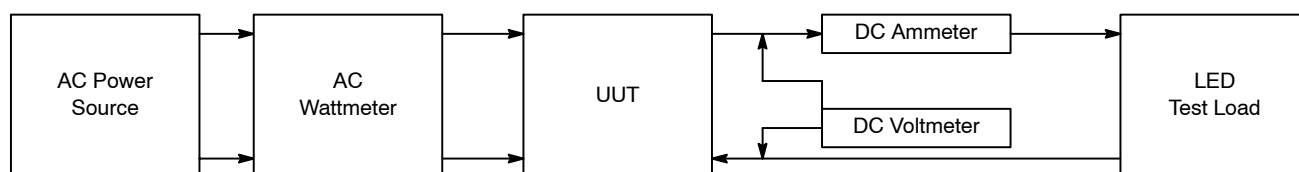

Figure 17. Test Set Up
1. Connect the Unit Under Test (UUT) per the test set up in Figure 17.